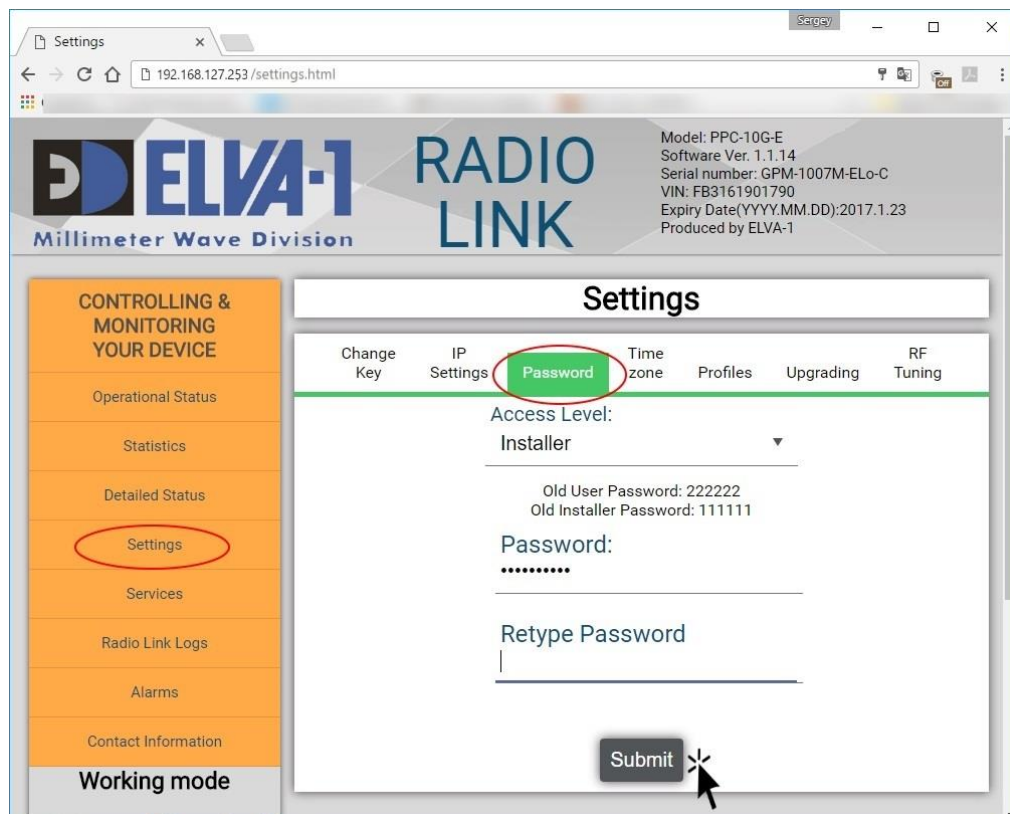

Figure 8: Choose **Settings** from left menu and **Password** tab, enter new password, then click **Submit** button
- Change password for Web Interface access to this radio (Fig.8). For this, choose **Settings** on left menu, then **Password** tab at top. Enter new password, retype it, then click **Submit** button. Use only Latin characters and digits, 6 - 20 symbols long.